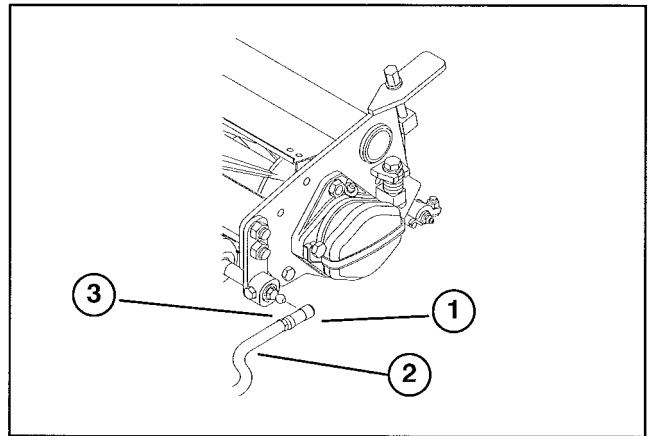

Figure 12
- Slide the sleeve back on the ball joint and rotate the pull arm down so the socket fits over the ball stud. Release the sleeve so it slides over the stud and locks the assemblies together (Fig. 12).
- Align the sockets in the ball joints so the open side of the socket is centered towards the ball stud. Tighten the jam nuts to secure the sockets in position (Fig. 12).